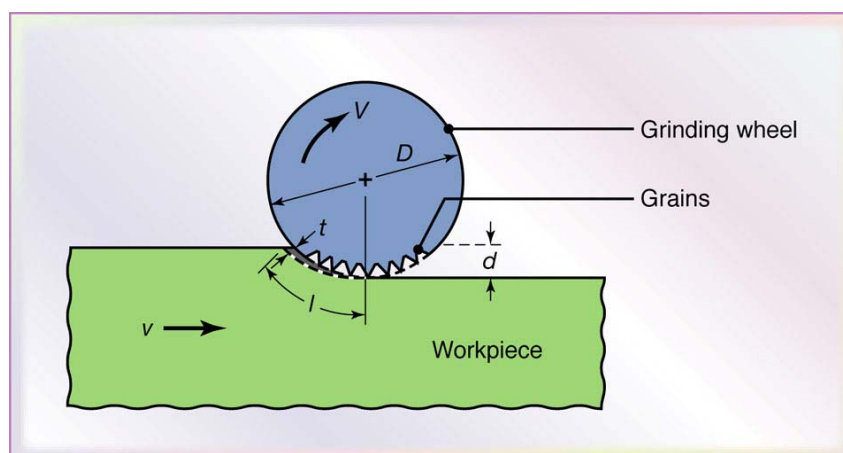

Figure Q1 [d]
- [d] A surface grinding operation was performed on titanium alloy with a wheel diameter of 250 mm, rotated at the speed of 4500 rpm with a 25 mm of cutting width, 0.05 mm of cutting depth and 1.5m/min of feeding rate as shown in Figure Q1 [d]. Assume that the specific energy for titanium alloy is  $50 \text{ W.s/mm}^3$  and the hardness is 300 HB.